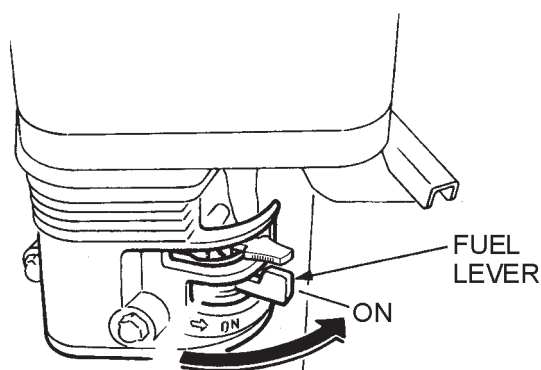

Figure 12. Engine Fuel Valve Lever (ON Position)
1. Place the engine fuel valve lever (Figure 12) to the "ON" position.